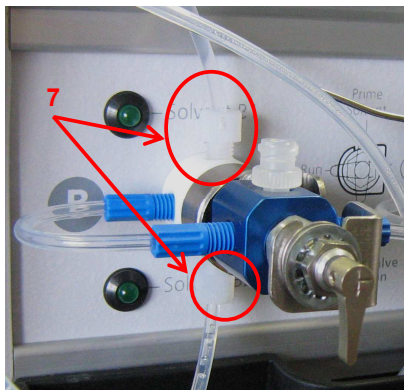

Figure 10: Solvent Line connections to the SUM
12. Once both SUM valve connections have been replaced, the new solvent lines need to be plumbed up. Remove the 2 solvent line connections (7) to valve B (*Figure 10*).